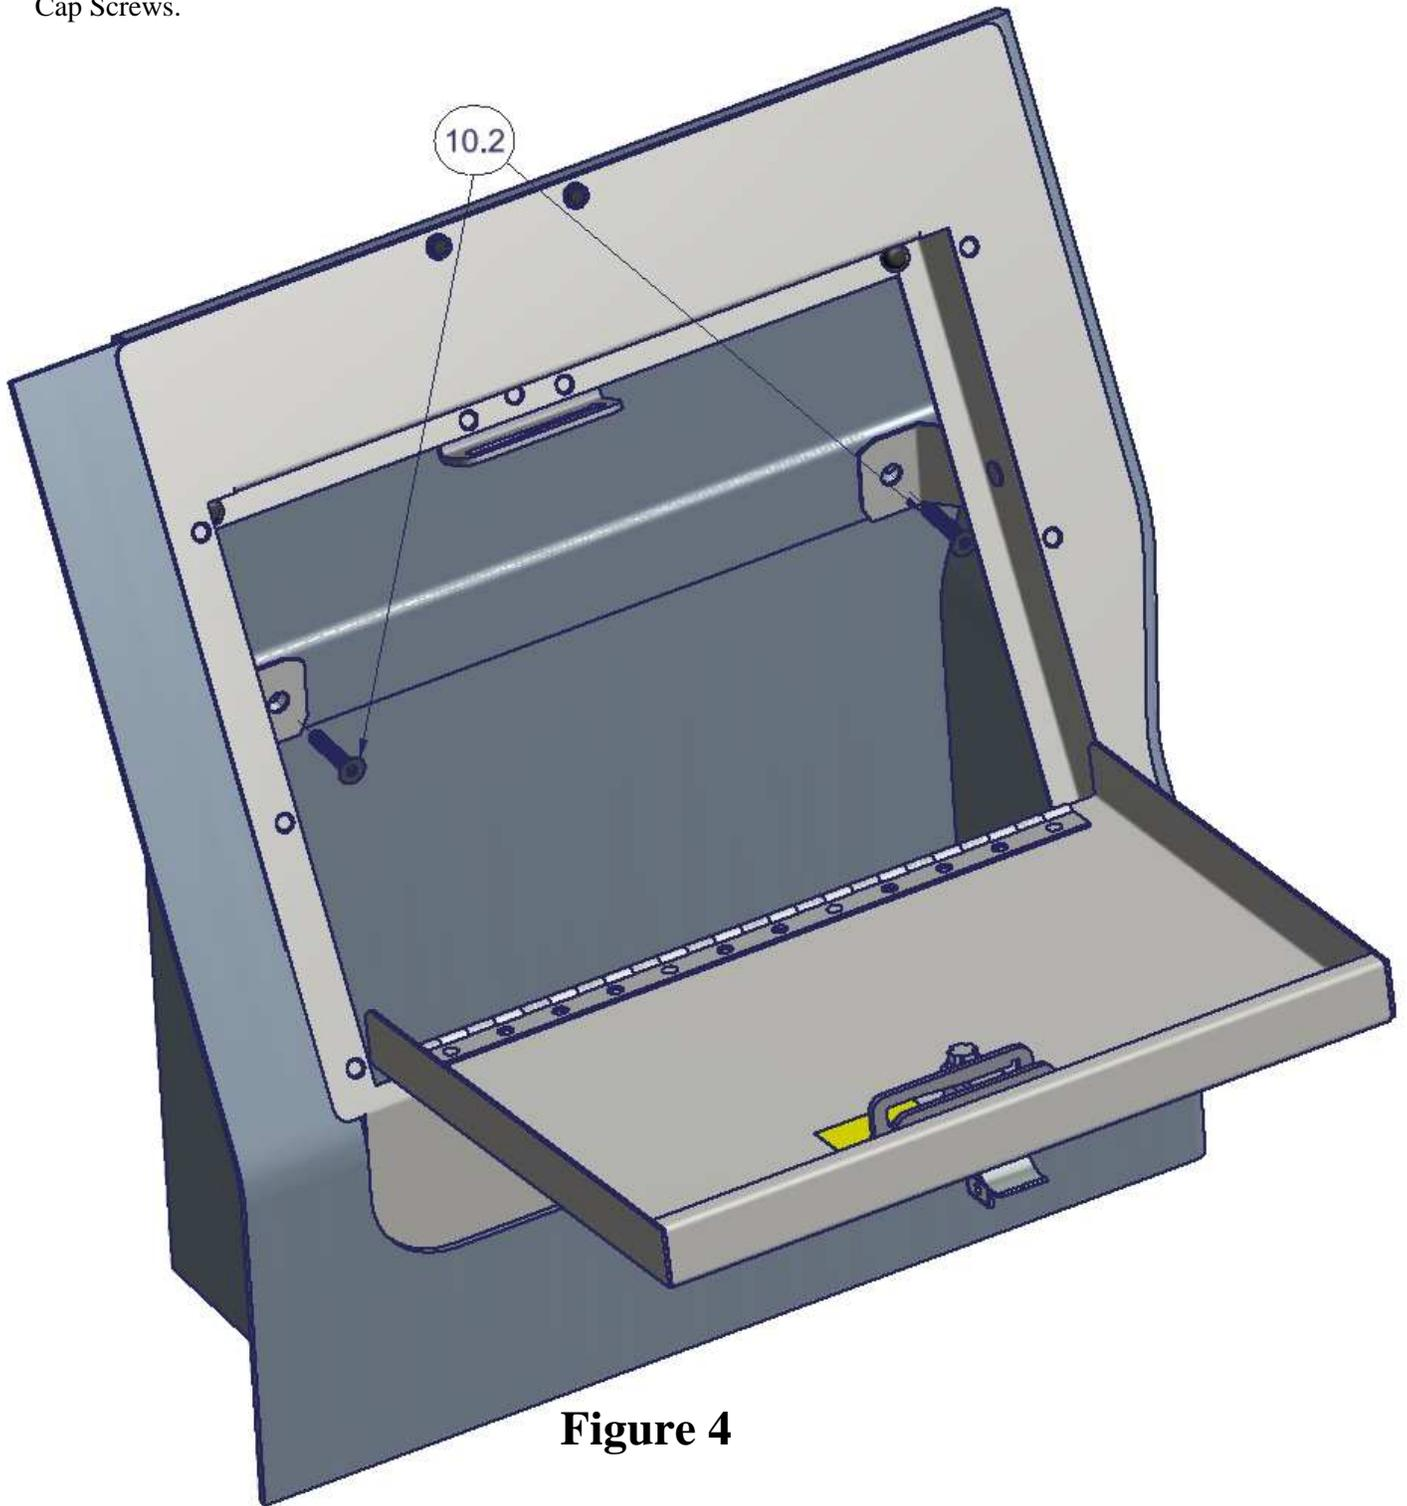

Figure 4
5. Open the lid and alternately rotate the mounting legs up into position, and loosely secure them in place using the #10.2 Cap Screws. (See Figure 4)